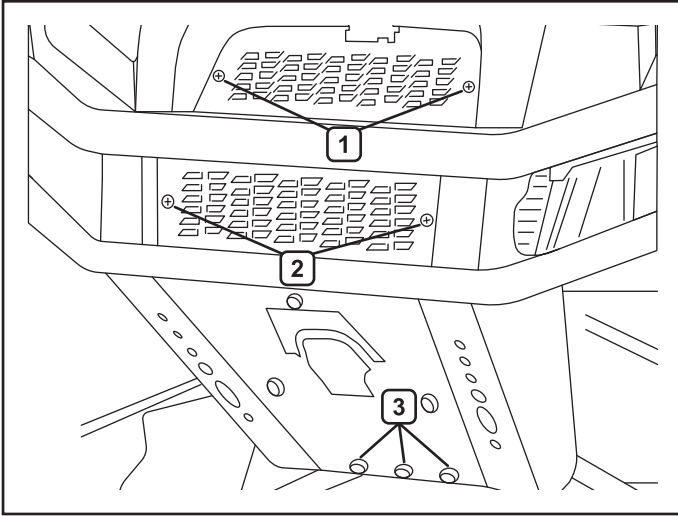

Figure 1.
1. Detach bumper by removing bolts from the upper front grill (1), lower front grill (2), bottom (3) and side (4) for a total of nine bolts as marked in figures 1 and 2.
5. Install your fairlead with the fairlead converter bracket (C) if used, using bolts (D) and nuts (H). Feed winch line through the opening. If the fairlead converter bracket is used, you will use bolt (G) and nut (H) in the middle hole of the bracket.
6. Reinstall bumper onto the machine. See figures 1 and 2 on preceding page.
7. Reinstall upper grill with hardware removed in step 1. See figure 1 on preceding page.